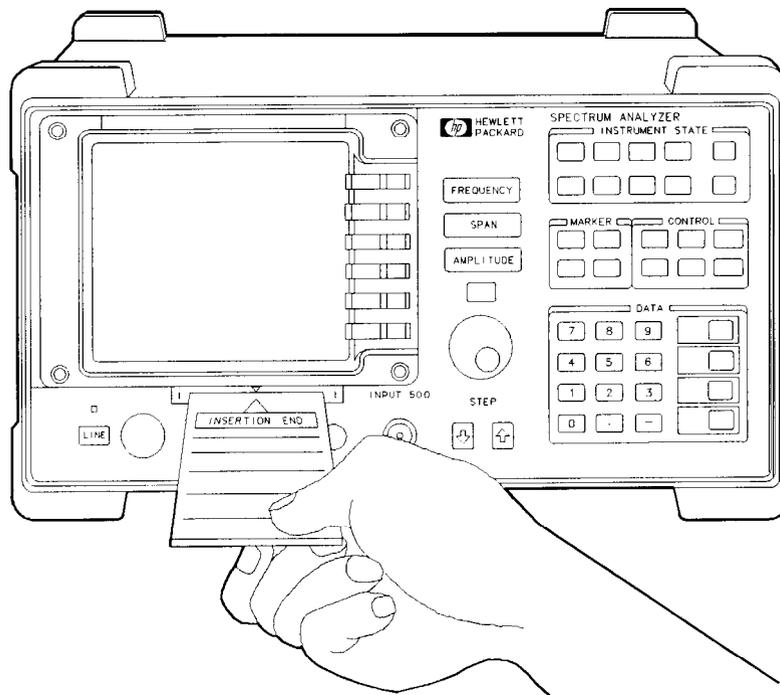

Figure 5-3. Inserting the Memory Card
2. Insert the card with its arrow matching the raised arrow on the bezel around the card-insertion slot (see Figure 5-3).